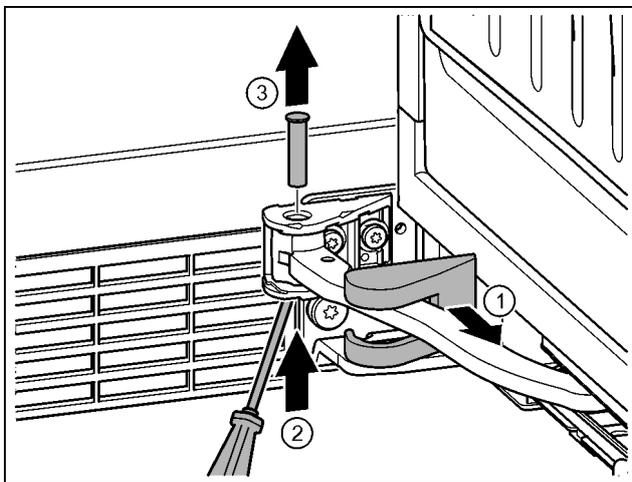

Fig. 15
- ▶ Remove the bearing bracket cover and push it along the hinge. Fig. 15 (1)
- ▶ Lift the bolt with a finger or screwdriver from below. Fig. 15 (2)
- ▶ Insert the screwdriver under the bolt head and remove. Fig. 15 (3)